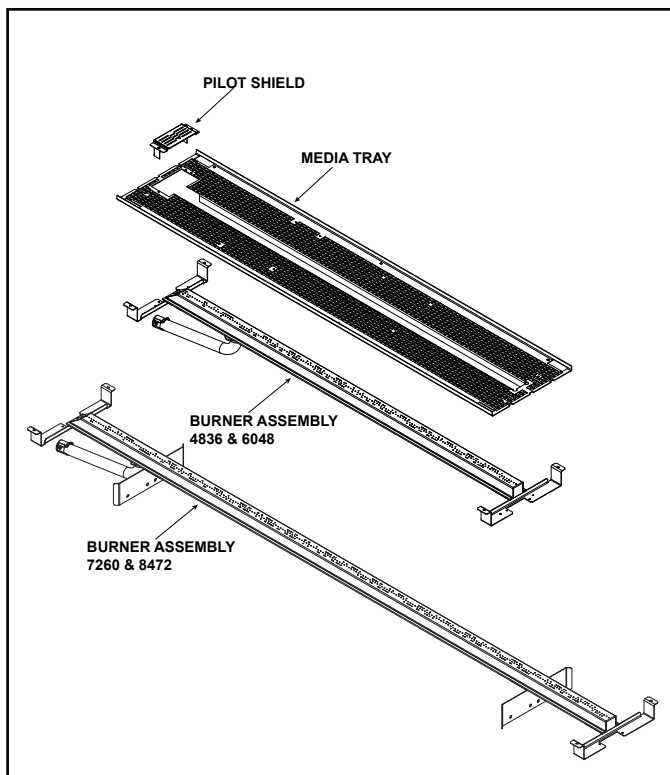

Figure 1 Base Pan with Burner and Pilot Cover
10. Remove the media tray. It is attached to the interior firebox bottom with screws. See Figure 1.